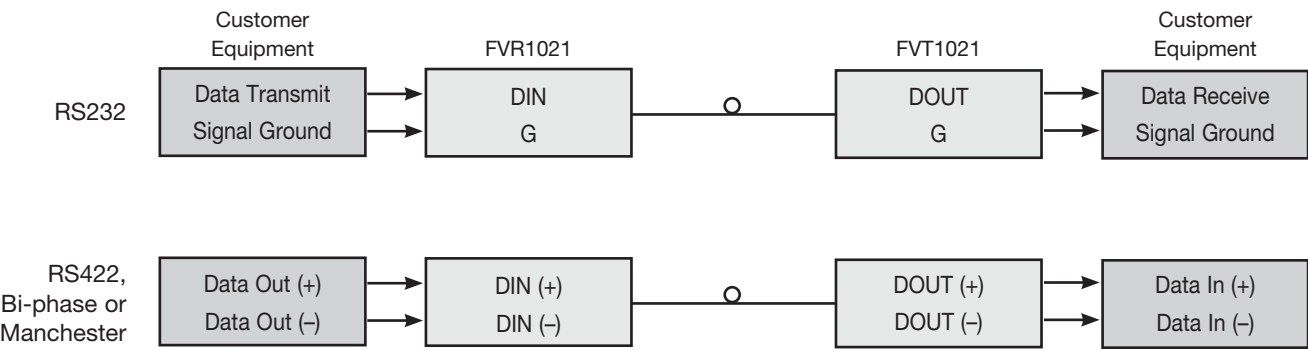

FIGURE 7 – LED INDICATORS
**Figure 7** on **Page 4** describes the LED indicators for each light on the unit.